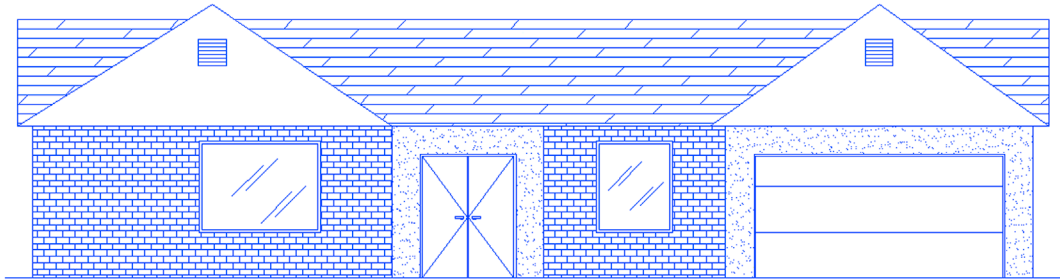

FIGURE 18.24 Elevation, Step 3.
Step 3. Complete the elevation by adding exterior wall hatch and some other finishing touches. Fig. 18.24 shows the final result. Repeat the same procedure for at least one other side of the house or complete all four.